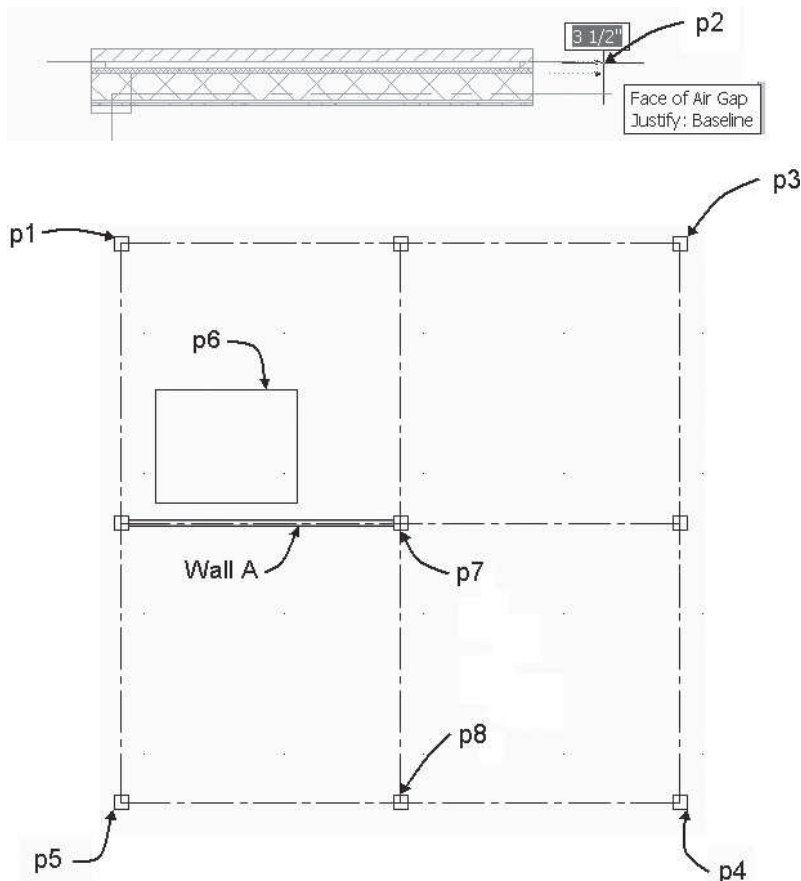

FIGURE 2.20 Specifying Offset using assistant lines
Start point or: (Choose a point at p1 to start the wall as shown in Figure 2.20.)
Pick a point or offset <0">: (Move the cursor right. Move the cursor up to point p2 to display the assistant line and click to specify the face of the Air Gap wall component as shown in Figure 2.20.)
End point or: (Select a point at p3 as shown in Figure 2.20.)
End point or: (Select a point at p4 as shown in Figure 2.20.)
End point or: (Select a point at p5 as shown in Figure 2.20.)
Select lines, arcs, circles, or polylines to convert into walls: (Select the polyline at p6 as shown in Figure 2.20.)
8. Select Wall A as shown in Figure 2.20; choose Add Selected from the General panel in the Wall tab. Respond to the workspace prompts as follows: